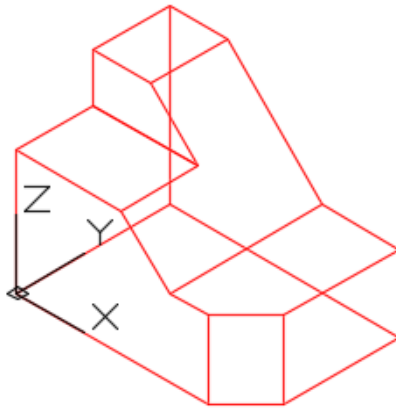

Figure Step 5
Step 5 Set the current view to SE Isometric. Your model should appear as shown in the figure. (Figure Step 5).